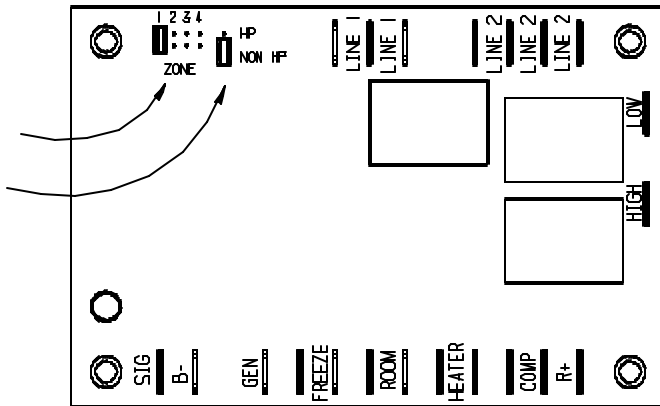

FIGURE 3
2. Set the "zone" jumper to the proper zone position for the particular position the air conditioner or heat pump will be in the coach (**Refer to Figure 3- Zone 1 is shown**). Zones should be numbered from the front of the back of the coach with Zone 1 in front.
3. Set the "HP"/"NON HP" jumper to "HP" if the unit is a heat pump or to "NON HP" if the unit is not a heat pump (**Refer to Figure 3- Non HP is shown**).